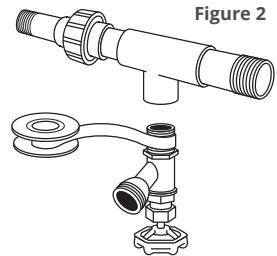

Figure 2
- Wrap the 1/2" male drain end 2-3 times with plumber's tape (Figure 2).